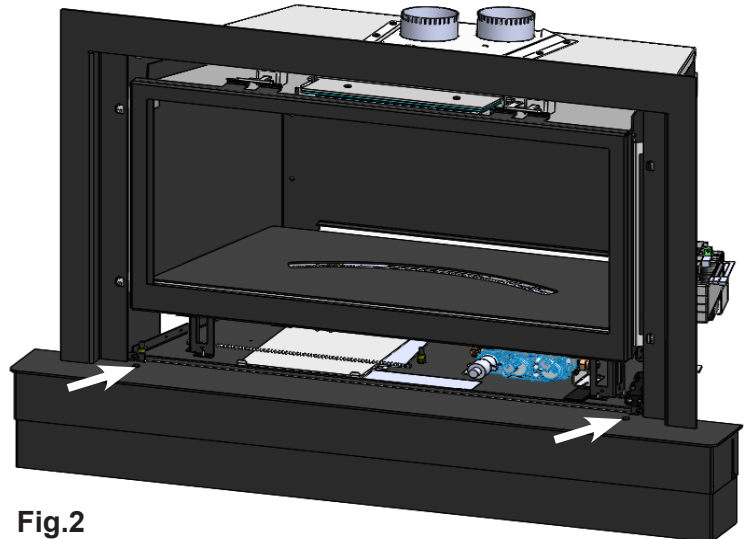

Fig.2
3. Center Shroud Shelf on front of unit and align x2 mount holes; once in position, fasten shelf to unit. **(Fig.2)**